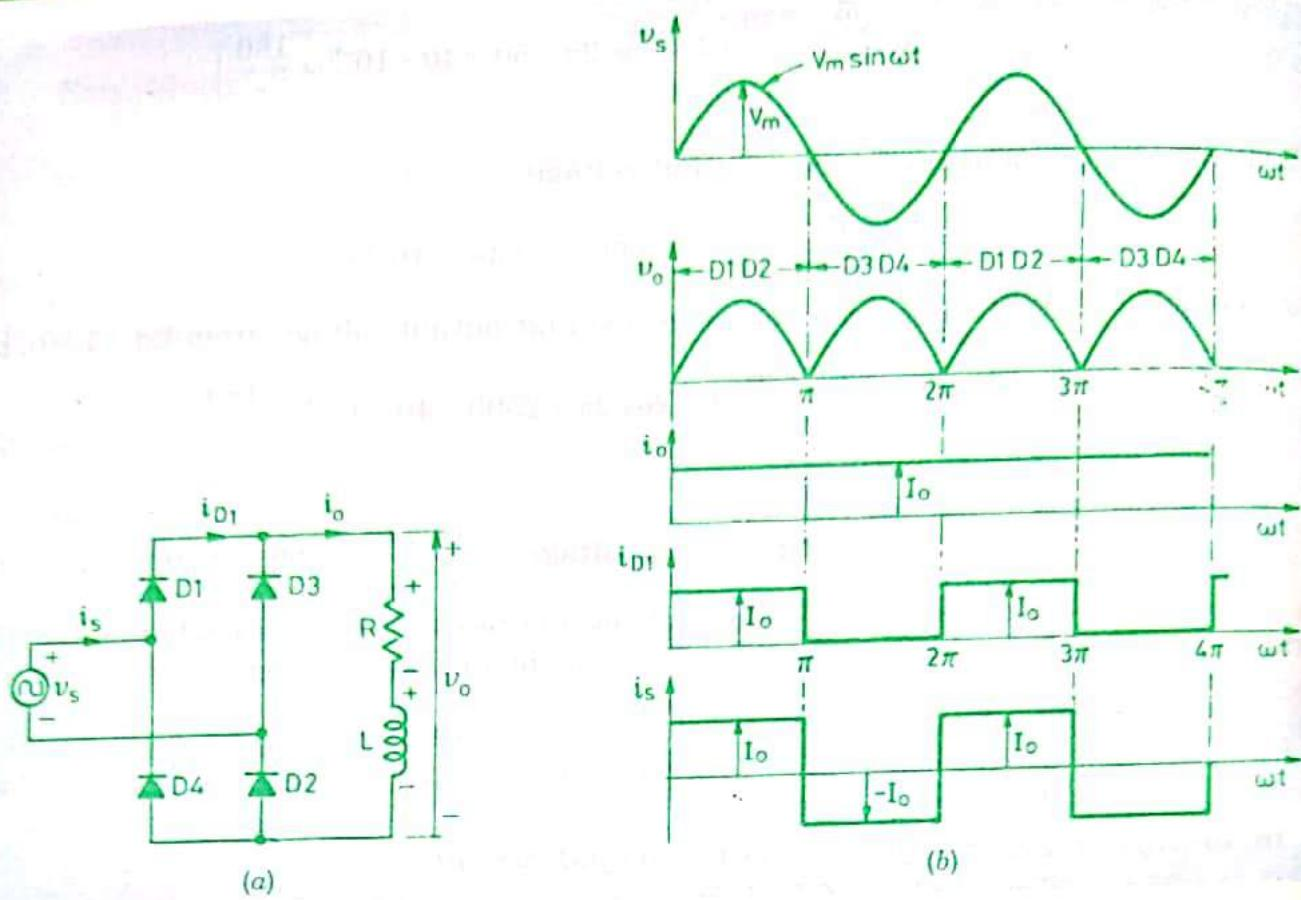

Fig. 3.23. Pertaining to Example 3.11 (a) circuit diagram and (b) waveforms.
**Solution.** The circuit diagram and relevant waveforms for this uncontrolled rectifier are shown in Fig. 3.23.